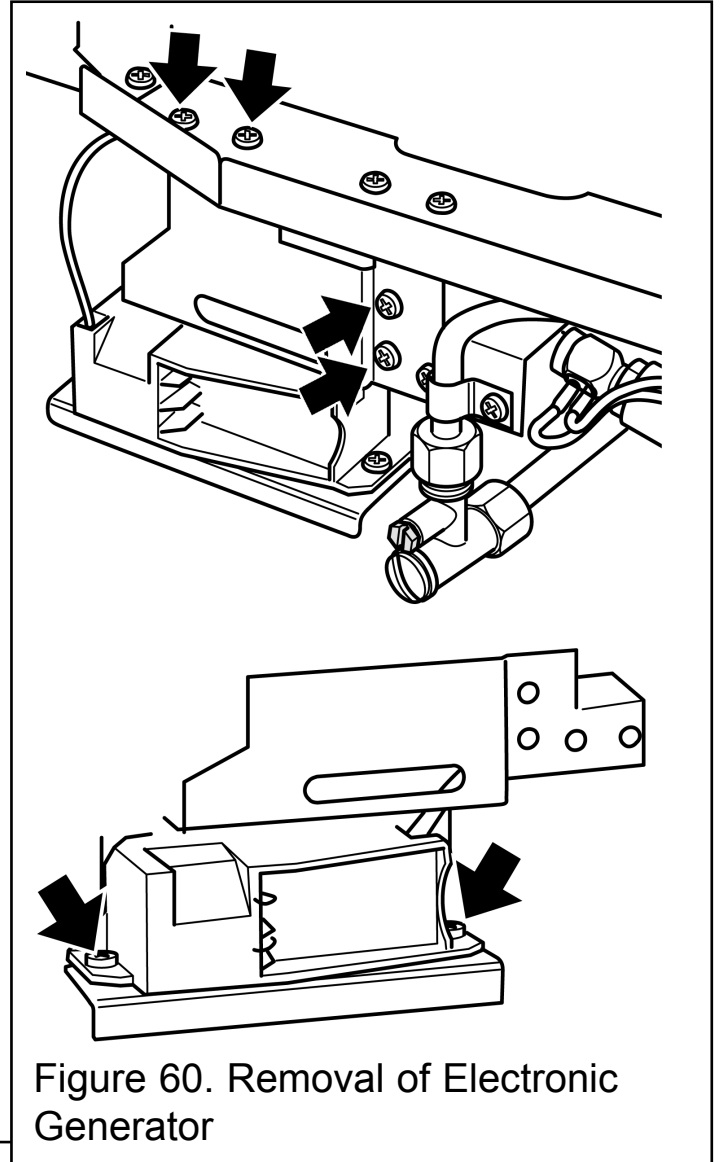

Figure 60. Removal of Electronic Generator
5. Unscrew the four support bracket screws (See figure 60). The generator and its support bracket can now be moved forward. Be careful not to apply tension to the microswitch leads.
6. Remove the two fixing screws that attach the generator unit to the support bracket. The igniter generator can now be removed. (see figure 60)